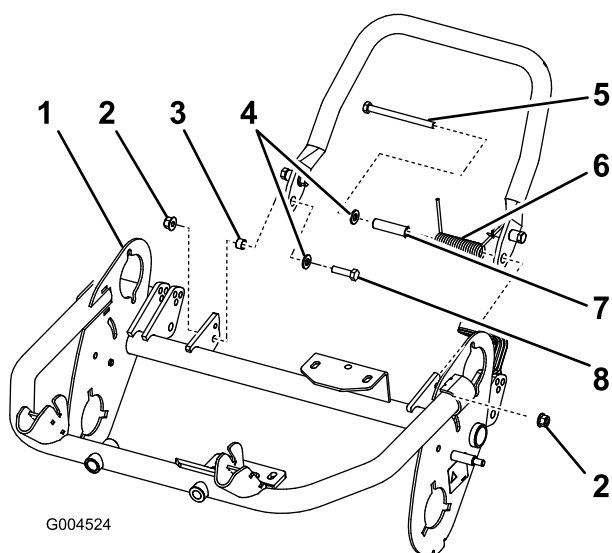

Figure 9
frame with the bolt and washer, the small spacer, and locknut (M8–1.25) (Figure 9). Ensure the bolt is installed from the inside of the frame as shown in Figure 9.
Important: When installing the spring, place one end of the spring under the rear frame (Figure 9).
5. Install the left side of the kickstand to the frame with the bolt and washer, the large spacer and spring, and locknut (M8–1.25) (Figure 9). Ensure the bolt is installed from the inside of the frame as shown in Figure 9.